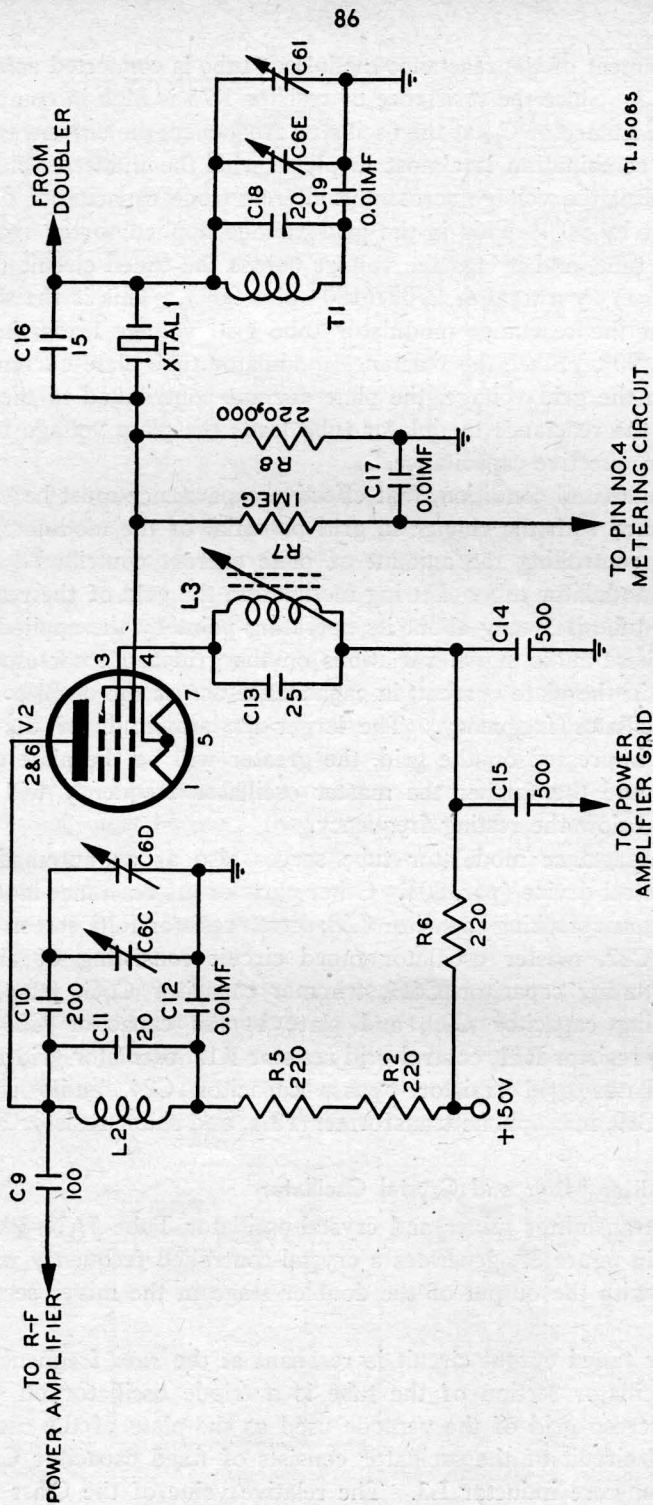

Figure 55. Radio Receiver and Transmitter BC-1000-A, transmitter mixer and crystal oscillator.
a. The transmitter mixer and crystal-oscillator Tube JAN-3A4, V2, as shown in figure 55, generates a crystal-controlled frequency which is combined with the output of the doubler stage in the mixer section of the tube.